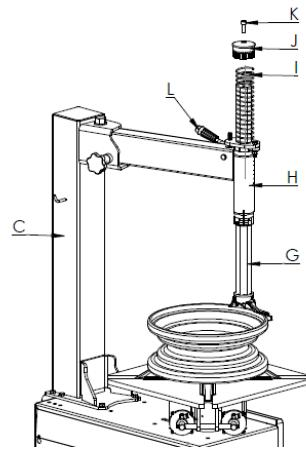

Fig. 6
- Slide the (de)mountingarm (G, fig.6) into the swingarm upwards (H, fig.6) and lock it with the locking lever (L, fig.6).
- **Make sure** you mount the (de)mountingarm (G, fig.6) in the correct direction, place a rim on turntable for reference when installing mounting head.
- Lock the (de)mountingarm (G, fig.6) in the highest position using the locking lever (L, fig.6) now place the spring (I, fig.6) and fixate it using the knob (J, fig.6) and M10x30mm allenbolt (K, fig.6).